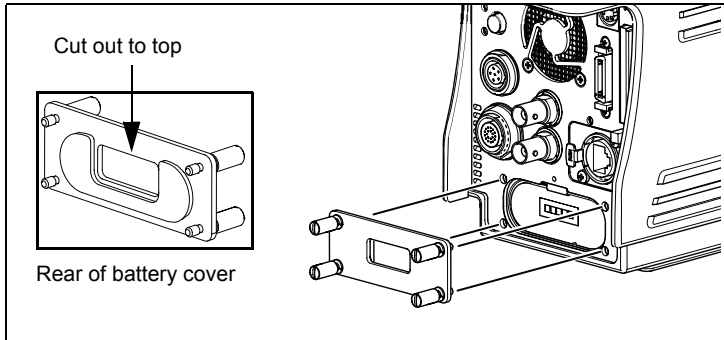

Figure 2.1
3. Replace the battery cover noting that the cut out should be to the top (Figure 2.1 inset). Tighten the four captive screws.